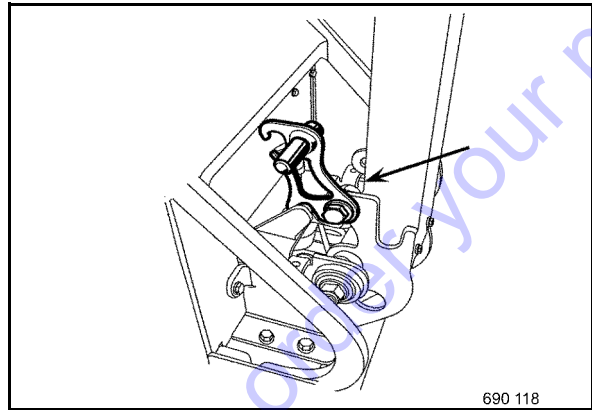

Fig. 65
- Adjust the steering rod (Fig. 65) in upright position and lock it in the last locking position of the detent rail.